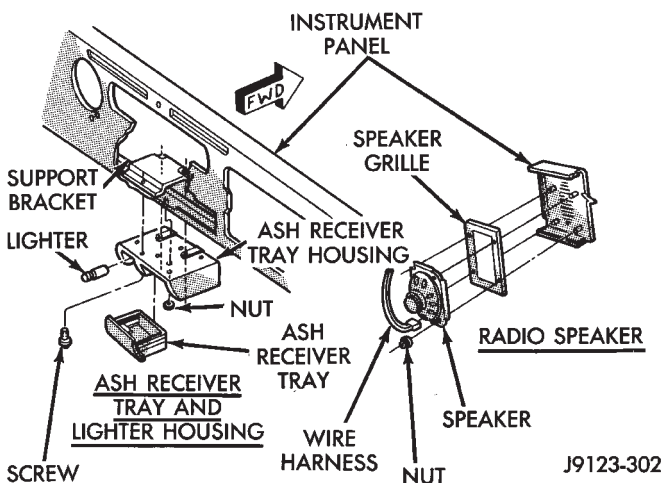

Fig. 17 Ash Receiver and Radio Speaker Removal/Installation
housing and the radio speaker from the instrument panel (Fig. 17).
- (1) As necessary, install the components that were removed from the instrument panel (Fig. 17).